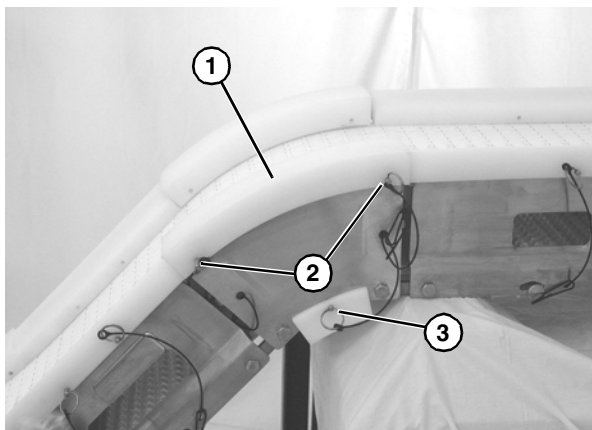

Figure 10
1. Slide guides (**Figure 10, item 1**) on to the knuckle frame, and secure with pull pins (**Figure 10, item 2**).
2. Install return guides and secure with pull pin (**Figure 10, item 3**).